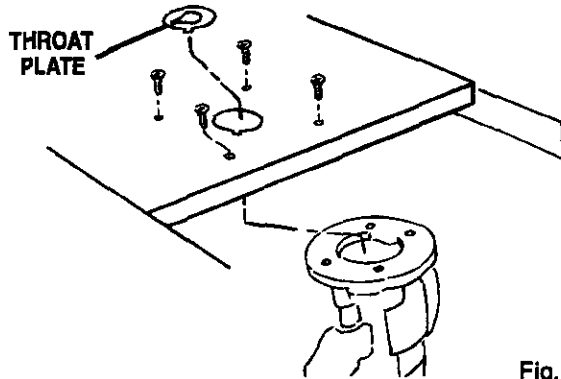

Fig. 8
- Align the holes in the table with the holes in your router. Feed the screws through the table and into the router. *See Figure 8.*